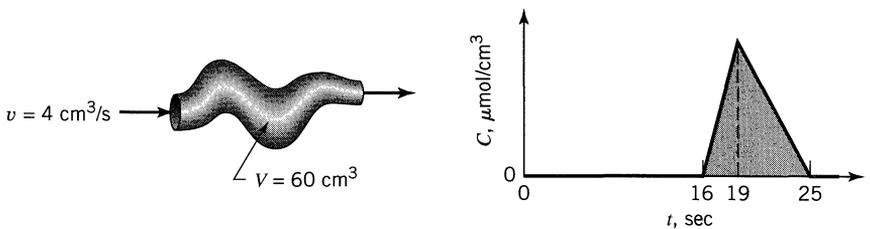

Figure P11.3
- 11.3. A pulse input to a vessel gives the results shown in Fig. P11.3.